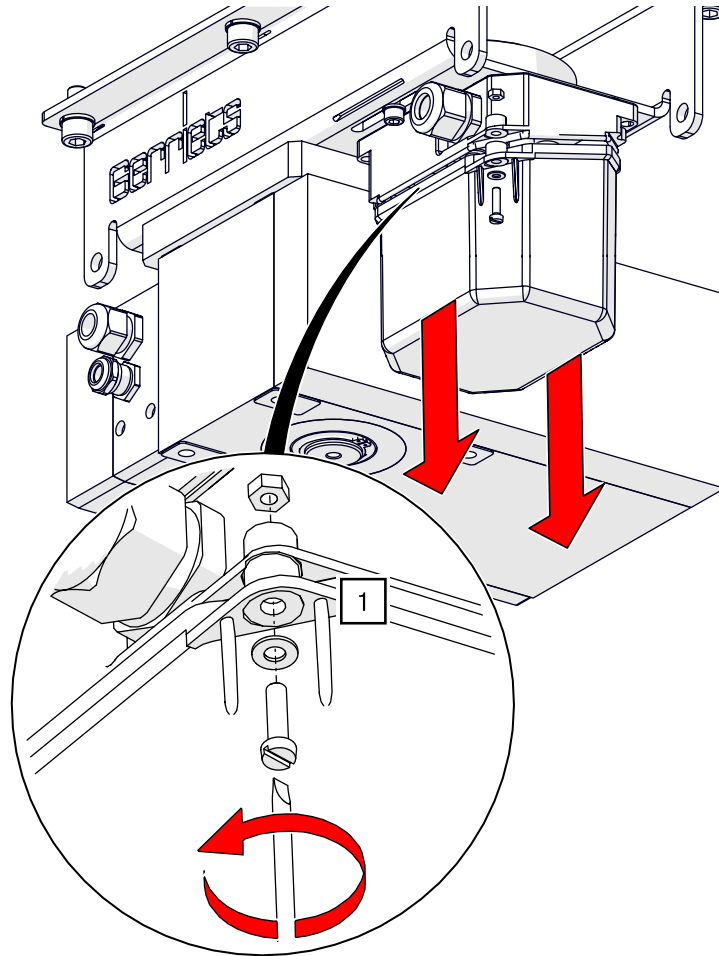

Fig. 96: Setting emergency limit switches – Release adjustment wheels
1. Loosen the housing screws with a slotted screwdriver / Allen key and remove the limit switch housing (see Fig. 96).